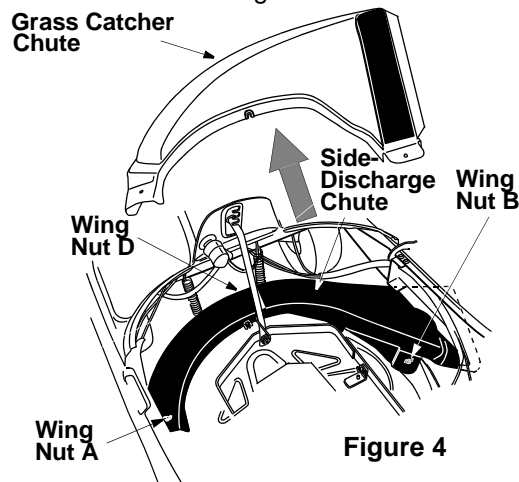

Figure 4
- Remove the two wing nuts (A and B in Figure 4) from two ends of the grasscatcher chute.
- Loosen the wing nut (D in Figure 4) in front at the middle of the chute. Do not remove. All three wing nuts hold the chute to the deck frame.